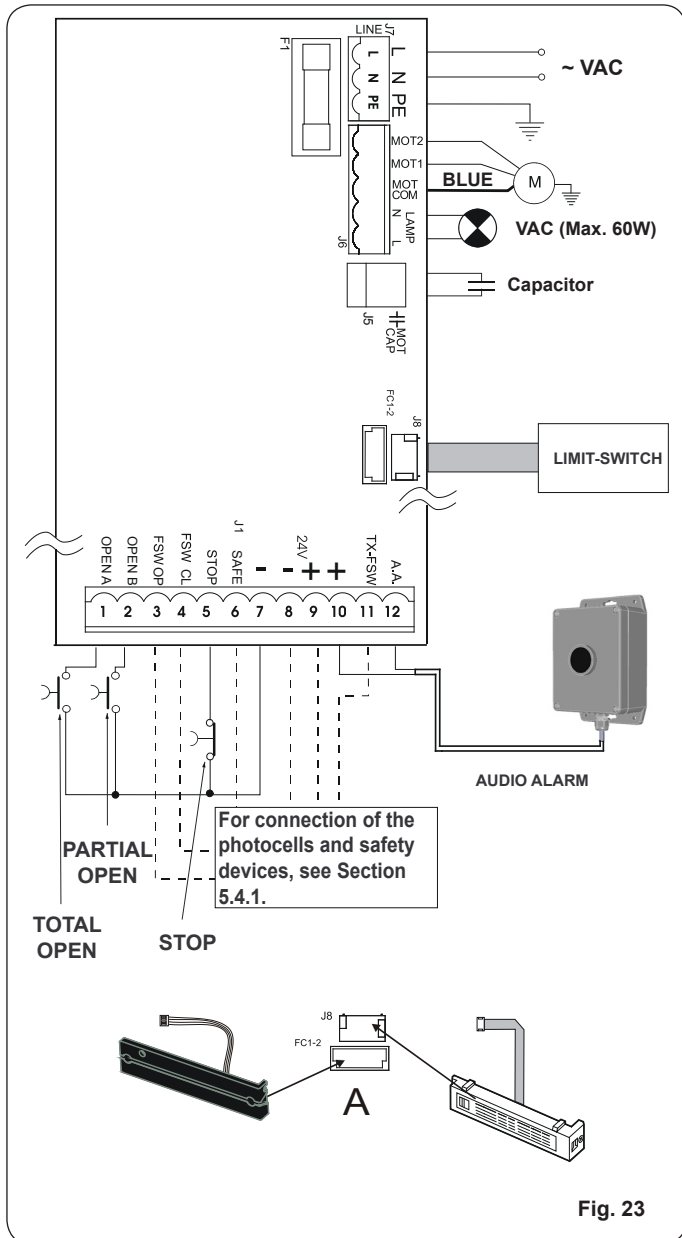

Fig. 23
5.4.2. J7 Terminal Block - Power Supply (Fig. 23)
5.4.3. J6 Terminal Block - Motors / Flashing Lamp (Fig. 23)
5.4.4. J1 Terminal Block - Accessories (Fig. 23)
Connect the supplied Audio Alarm as shown in fig. 23. The alarm will sound upon two consecutive obstacle detections by the operator. It will sound continuously until the activation of the STOP input or a power cycle.
Quick-fit connector for connecting the limit-switch. For connecting both the MLS magnetic limit-switch and the inductive limit-switch (Fig. 23 Ref. ①) to the operator.